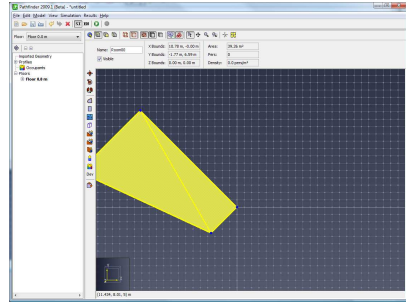

Figure 142. Rotated object
- The third defines a second vector extending from the rotation base (Figure 142). The rotation angle is the angle between these two vectors.